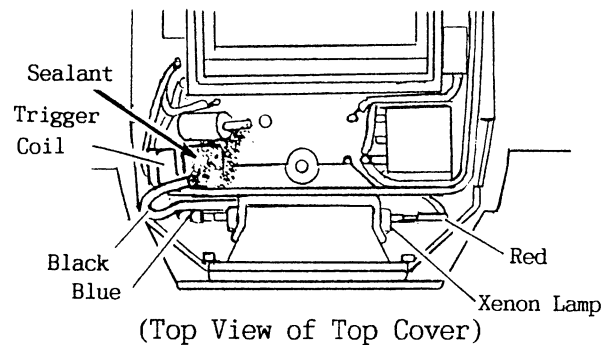

Fig.56
- a) After soldering the black lead wire to the Trigger Coil, apply sealant to prevent spark. (See Fig. 56)